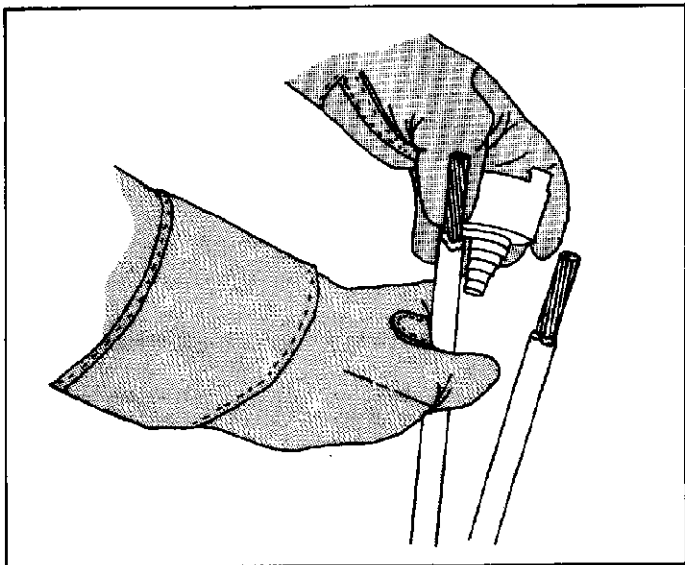
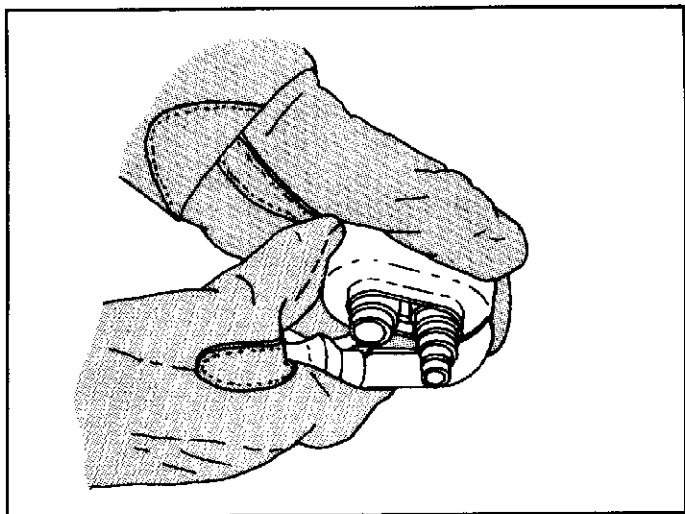

Figure 4
Figure 5
- (b) Determine reducer ring diameter necessary for insulation size of one conductor, as shown in Figure 4, and cut off reducer at ring selected. See Figure 5.
- (c) Repeat step (b) for other conductor, cutting off other reducer at selected ring, as shown in Figure 5.